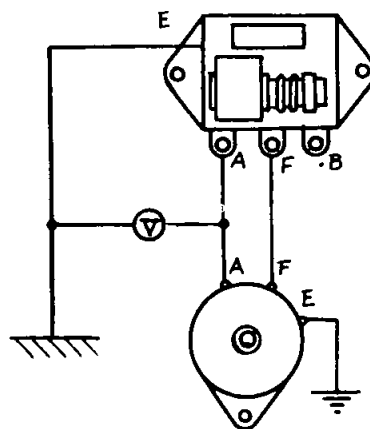

Fig. 9 Wiring hook-up for measuring push-up voltage
(1) With the connections made as shown in Fig. 9 have the generator at no-load (B terminal disconnected) and rotating at specified speed (2,500 rpm).
(2) Set the pile pressure screw position.
(3) Tighten the adjusting core (F screw) and determine the push-up voltage. If the F screw is tightened beyond the push-up voltage (10.5 volts/2,500 rpm.), the voltage rises extremely fast so that care should be taken to tighten as slowly as possible when near the push-up voltage.
(4) If by adjusting the F screw the specified push-up voltage cannot be obtained but is less than 10.5 volts (Case A2), the F screw is unscrewed back nearly to the no-load voltage and the P screw is slightly tightened. If more than 10.5 volts (Case A1), the P screw is lightly loosened. Then by following the procedure shown in (1), the push-up voltage is redetermined.
This is due to the fact that at first the gap between the F screw and the moving core to increase the contacting resistance of the pile sheets and lower the terminal voltage. As the F screw is tightened further, the gap to the moving core reaches 0 and the terminal voltage shows a minimum value. With further tightening, the flux adjusting screw being to push the directly and the voltage rises rapidly This as the push-up voltage. The voltage is measured by connecting a voltmeter between the A and E terminals as shown in Fig. 9.